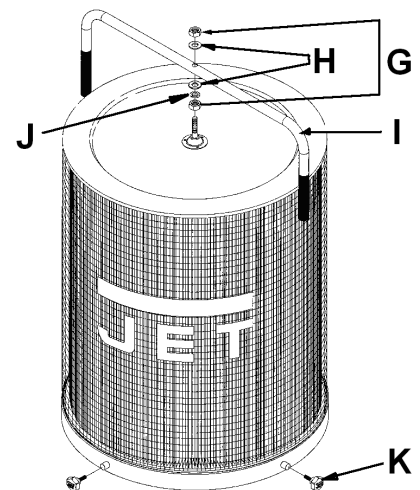

Fig 10
Mount the handle (I, Fig 10) with 2 hex nuts (G), flat washers (H) and a lock washer (J).
To clean the filter on DC-1100CK, turn the handle (I, Fig 10) a couple of rotations so the dust falls into the collector bag.